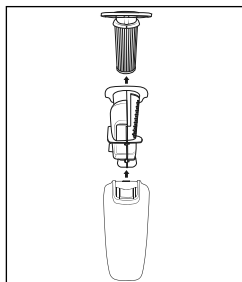

Fig. 14
- ◆ First remove the HEPA filter 20 and then the coarse filter 19 from the dirt container 10 (see fig. 14). Tap out both parts over a waste bin or similar. If necessary, you can rinse the HEPA filter 20 in fresh water. Afterwards, let it dry out completely.